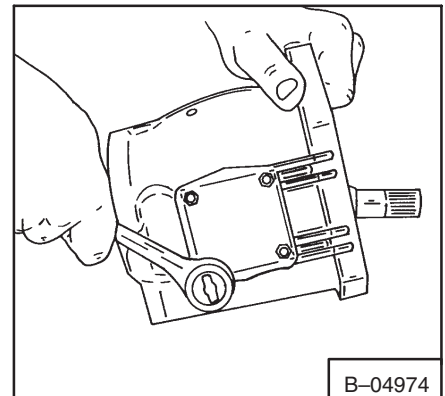

**Fig. 3-104** Marking Rotating Group
12. Put a mark on one piston and on one cylinder bore (Fig. 3-104) and remove the pistons from the cylinder block.